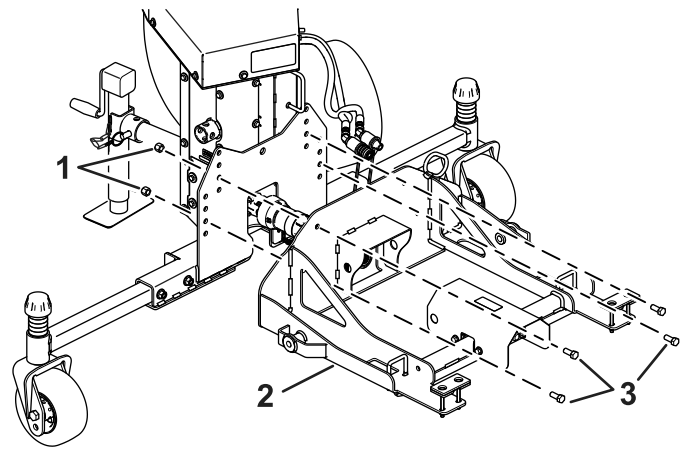

Figure 11
2. Install the mounting plate assembly to the debris blower frame with 4 bolts (1/2 x 1-1/4 inch) and 4 locknuts (1/2 inch) and connect the blower driveshaft to the splined shaft on the mounting plate assembly by sliding the quick coupler onto the shaft (Figure 11).